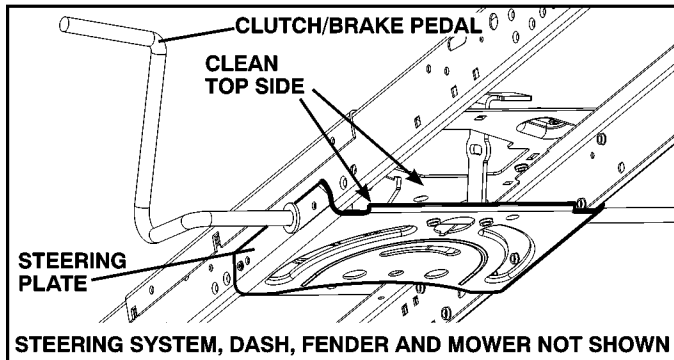

Fig. 37
- Clean debris from steering plate. Debris can restrict clutch/brake pedal shaft movement, causing belt slip and loss of drive. See Fig. 37.